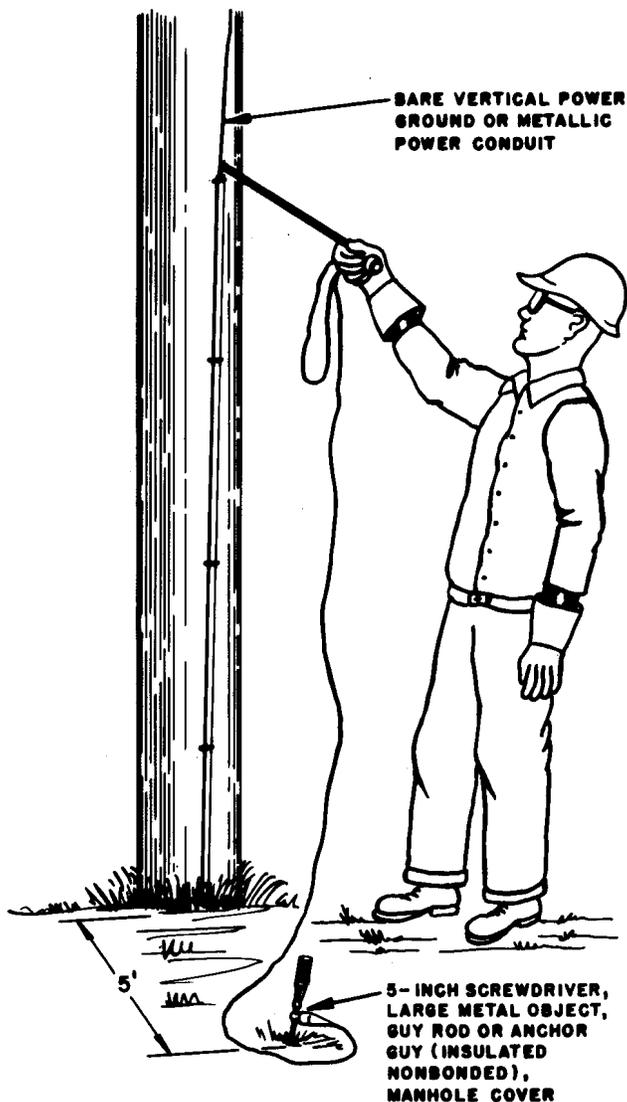

Fig. 10—Testing Vertical Power Ground
- 5.04** An employee, testing for a foreign potential, is to observe the indicator as the probe touches the object being tested. This can be best accomplished by using the "gunsight method." Both the indicator and probe are held in the same hand and in the line of sight between the workman and the object being tested. Figures 10, 11, and 12 illustrate this technique.
(a) Attach the insulated clip of the B-Voltage Tester (Fig. 10) to one of the following: